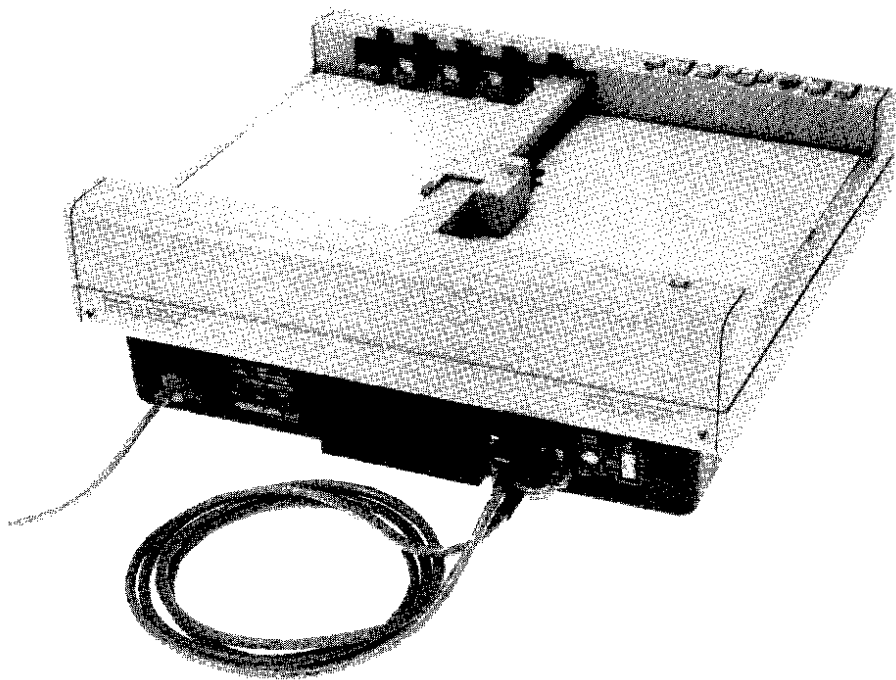

Figure 2-6. Plotter Confidence Test Connections
- b. Connect the RS-232-C/CCITT V.24 male-to-male interface cable (HP Part No. 07221-60157) supplied with the plotter between the rear-panel TERMINAL and MODEM connectors as shown in Figure 2-6.